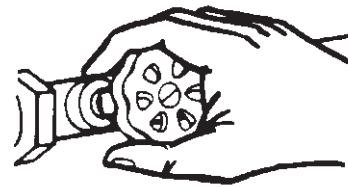

FIGURE 12.
2. Turn off the water supply to the water heater at the water shut-off valve or water meter, see Figure 12.